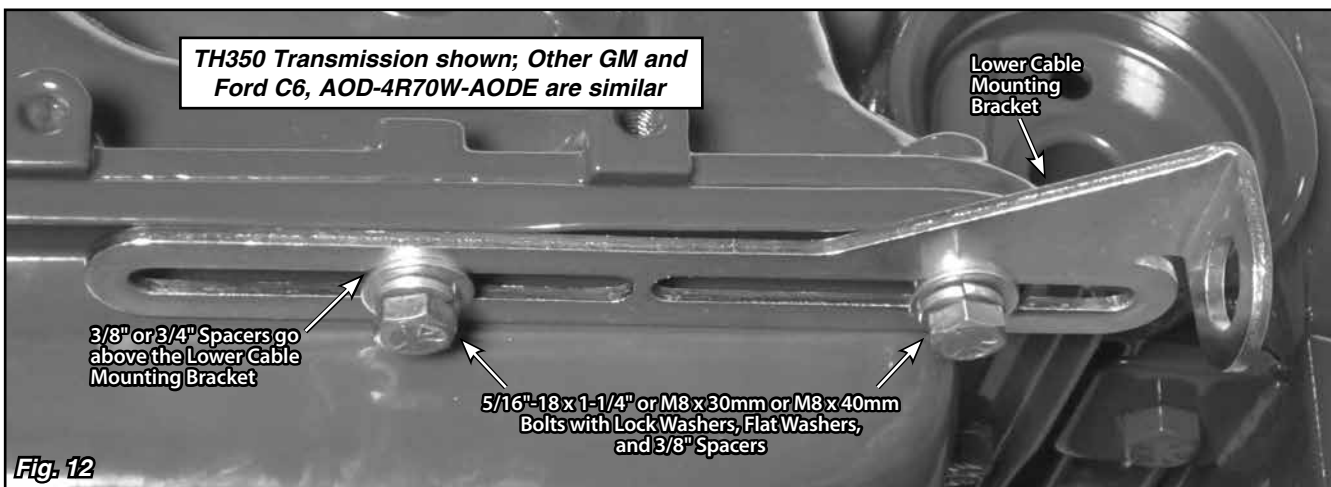

Fig. 12
Step 3, GM TRANSMISSIONS: Install the lower cable mounting bracket on the driver side of the transmission pan, using the provided longer bolts, lock washers, flat washers, and 3/8" spacers. Do not tighten the bolts yet. Most TH350 and TH400 transmissions use standard thread bolts (5/16"-18 x 1-1/4"). 700-R4, 200-4R, 4L60, 4L60E, and 4L80 transmissions use metric bolts (M8 x 30mm). The TH350 uses the two rearmost pan bolts on the driver side. TH400, 700-R4, 200-4R, 4L60, 4L60E, and 4L80 use the two pan bolts directly behind the selector shaft. **Fig. 12**
On C6 and AOD-4R70W-AODE transmissions, remove the two transmission pan bolts directly behind the selector shaft. Install the lower cable mounting bracket using the provided spacers and bolts. C6 uses 3/8" spacers and 5/16"-18 x 1-1/4" bolts with flat washers and lock washers, and AOD-4R70W-AODE uses 3/4" spacers and M8 x 40mm bolts with flat washers and lock washers. **Fig. 12**